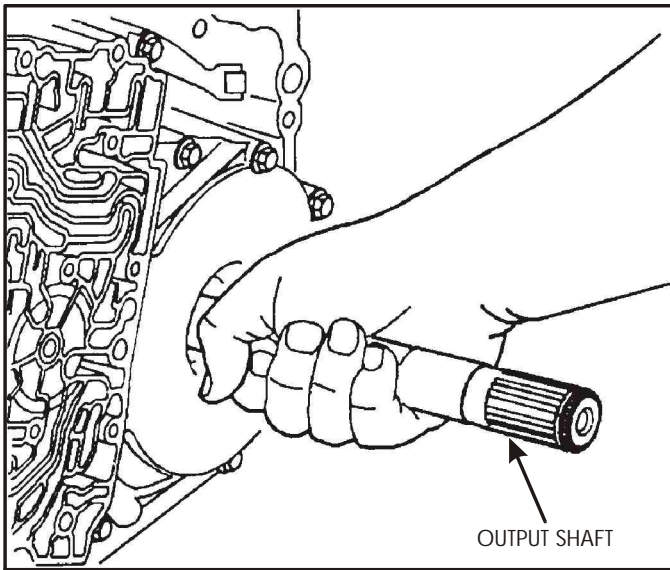

Figure 57
8. The output shaft can now be removed from the transaxle from the channel plate side, as shown in Figure 57.